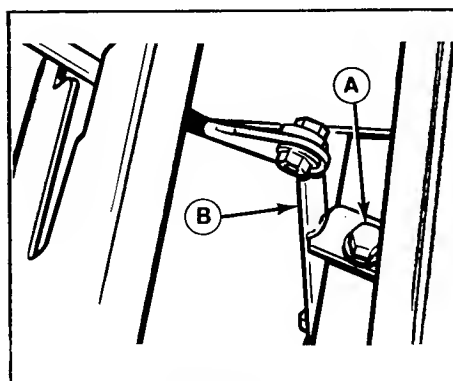

Figure 23. Gear Shift Lever
3. Remove the nut, washer and capscrew (A, figure 23) from the gear shift lever (B). Remember position of hardware for reinstallation.